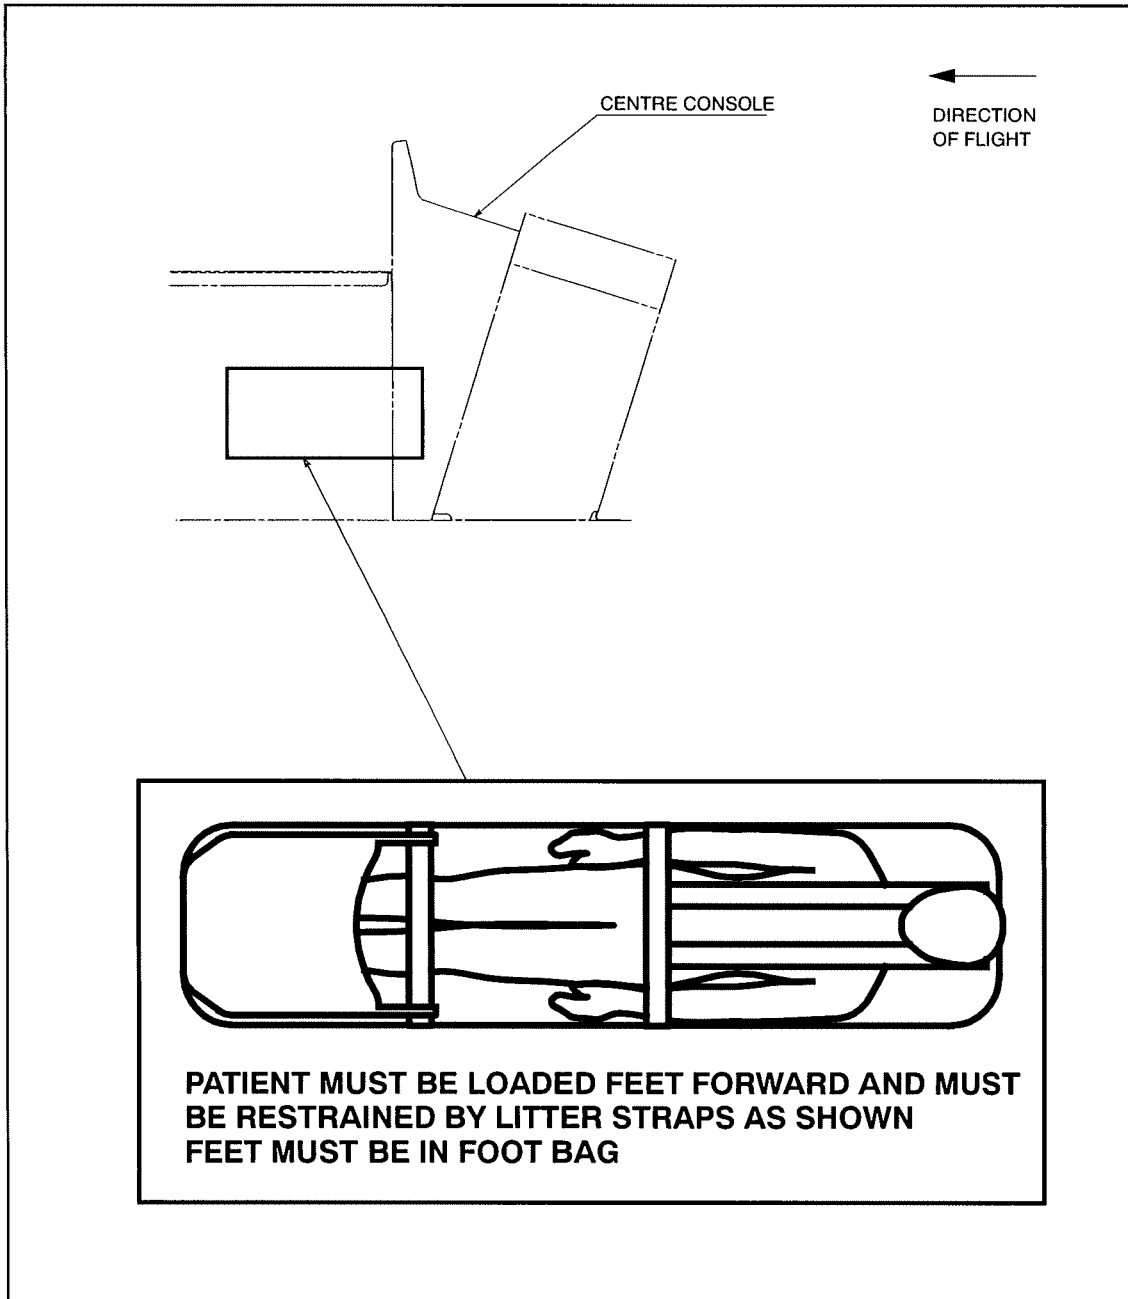

Figure 6 Placard location on LH Side FWD of the center console in the nosebay
3. Insert the male buckle/tang through both shoulder-strap links and into the female buckle/receiver until it locks into place (Figure 6).